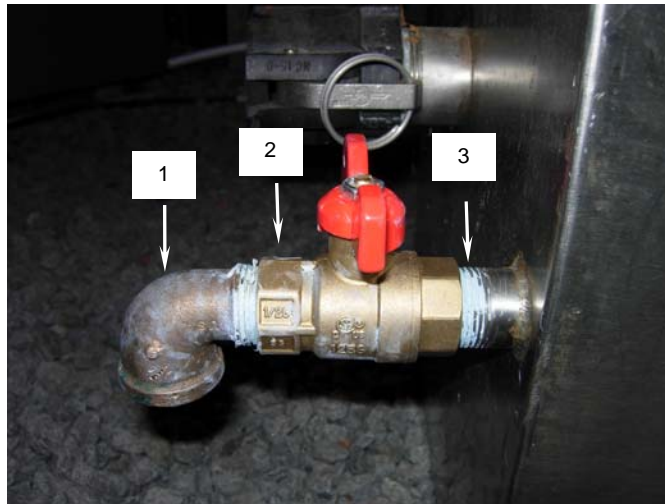

Figure 1. Removing the Grease Removal Valve from the Grease Separator.
- a. Unscrew the pipe elbow (**Figure 1, Item 1**) from the valve (**Figure 1, Item 2**).
- b. Unscrew the valve (**Figure 1, Item 2**) from the grease separator drain outlet (**Figure 1, Item 3**).
- a. Clean the threads on the pipe elbow (**Figure 1, Item 1**) and the grease separator drain outlet (**Figure 1, Item 3**).
- b. Apply sealing compound to the threads of the pipe elbow (**Figure 1, Item 1**) and the grease separator drain outlet (**Figure 1, Item 3**).
- c. Screw the valve (**Figure 1, Item 2**) onto the grease separator drain outlet (**Figure 1, Item 3**) and tighten so that the valve handle is up and the pipe elbow points down.
- d. Screw the pipe elbow (**Figure 1, Item 1**) onto the valve (**Figure 1, Item 2**) and tighten so that the elbow points down in the opposite direction from the valve handle.